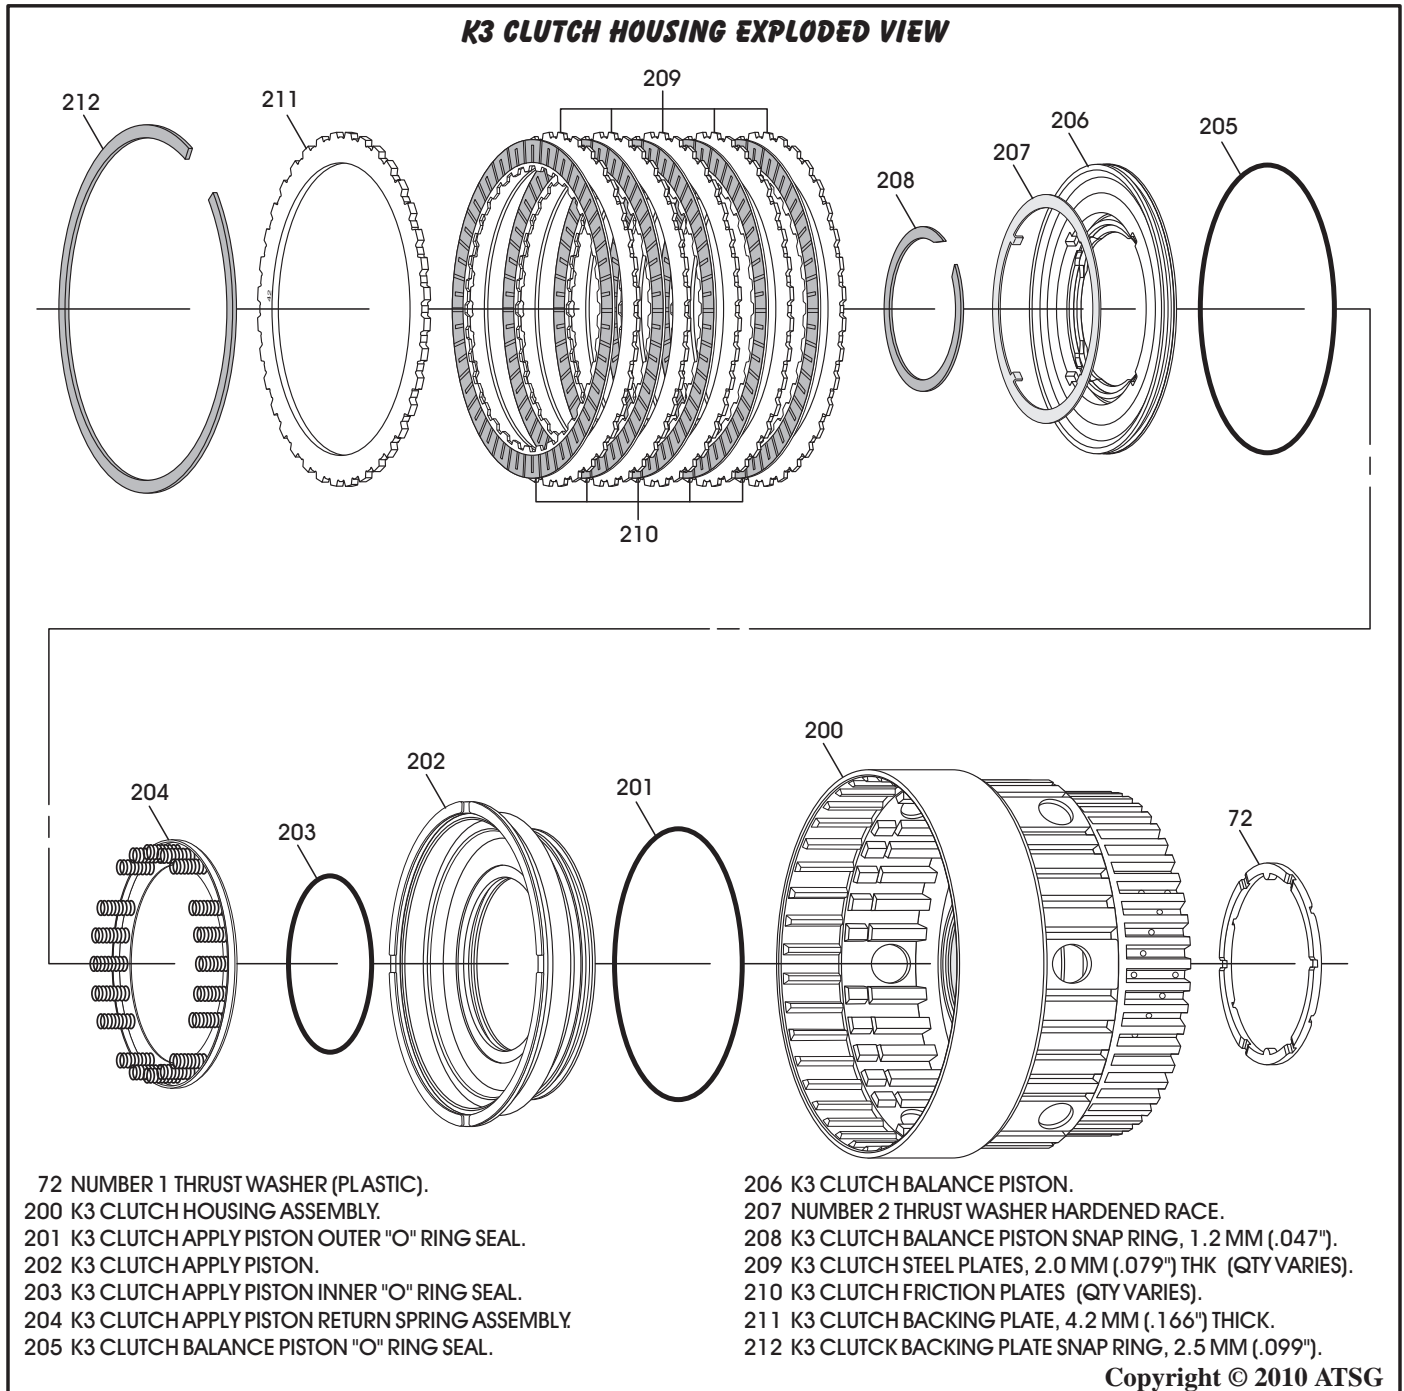

Figure 133
1. Disassemble the K3 clutch housing assembly using Figure 133 as a guide.